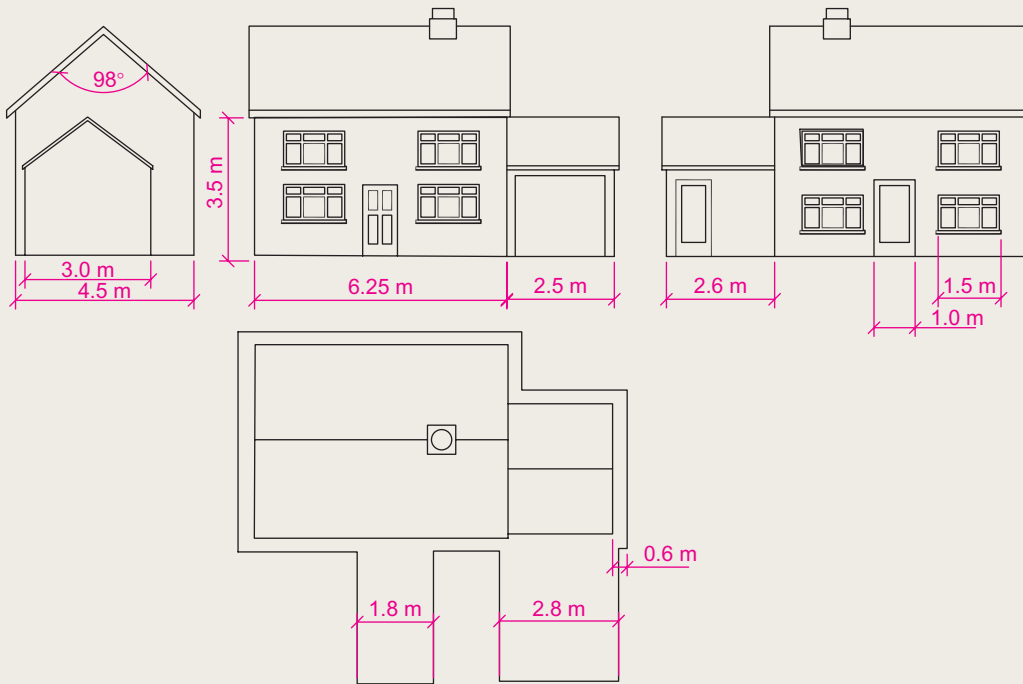
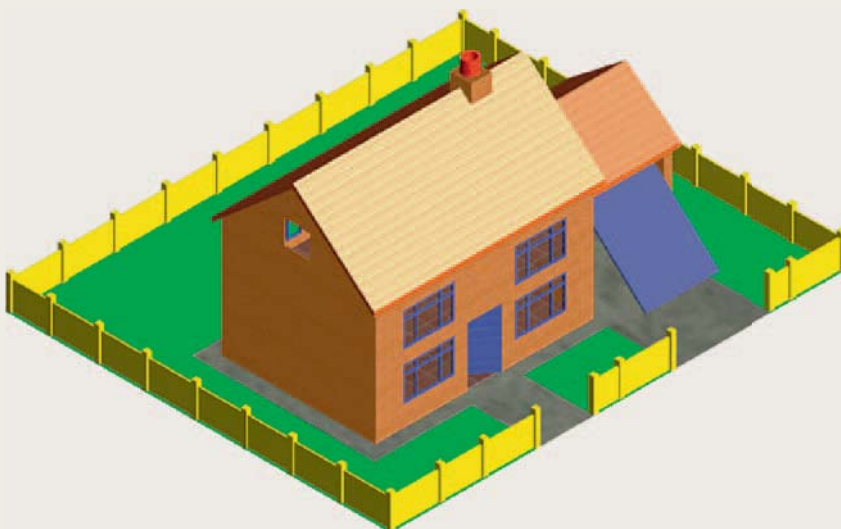

Fig. 16.32 Exercise 5 – orthographic views
Fig. 16.33 Exercise 5 – the rendered model
5. Fig. 16.32 is a three-view, dimensioned orthographic projection of a house. Fig. 16.33 is a rendering of a 3D model of the house. Construct the 3D model to a scale of 1:50, making estimates of dimensions not given in Fig. 16.32 and render using suitable materials.